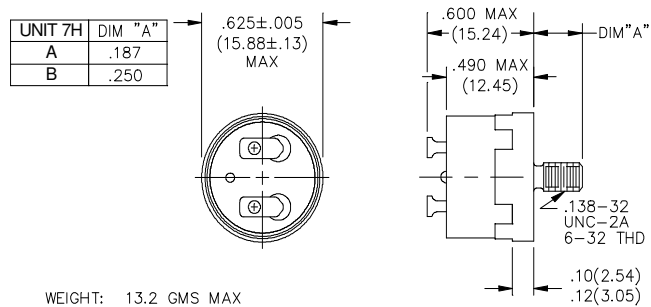

Figure 5:
- 705 = Narrow Slot-Slot Flange (See Figure 5)